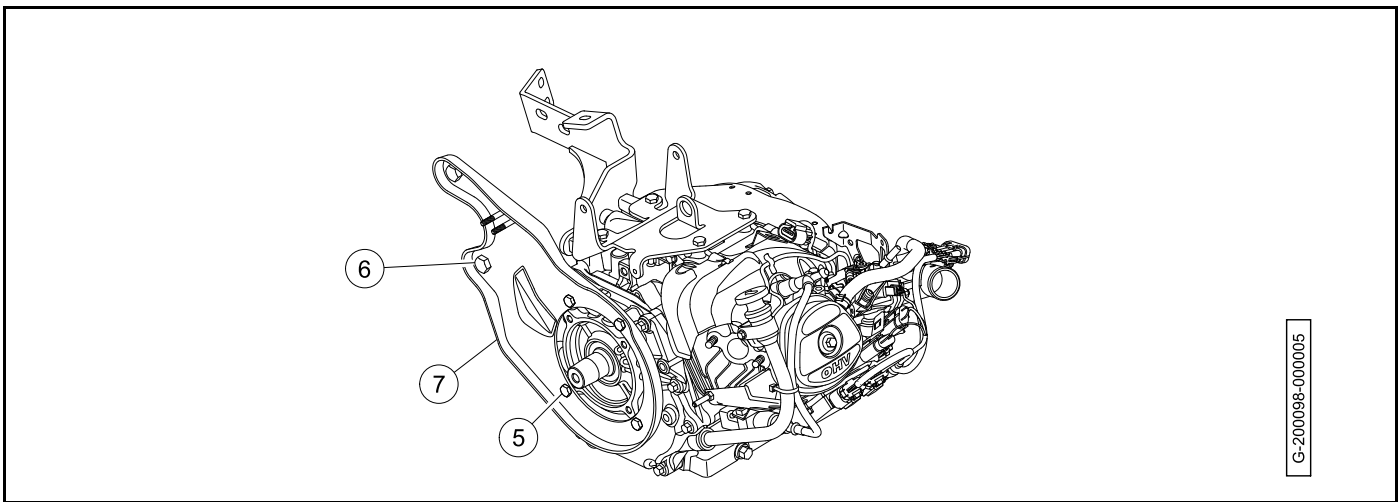

Figure 20-7 Clutch Plate Installation
5. Install the clutch plate (7) with bolts (5 and 6) (**Figure 20-7, Page 20-6**). Tighten the bolts (5) to 27 ft·lb (36 N·m). Tighten the bolts (6) to 50 ft·lb (68 N·m).